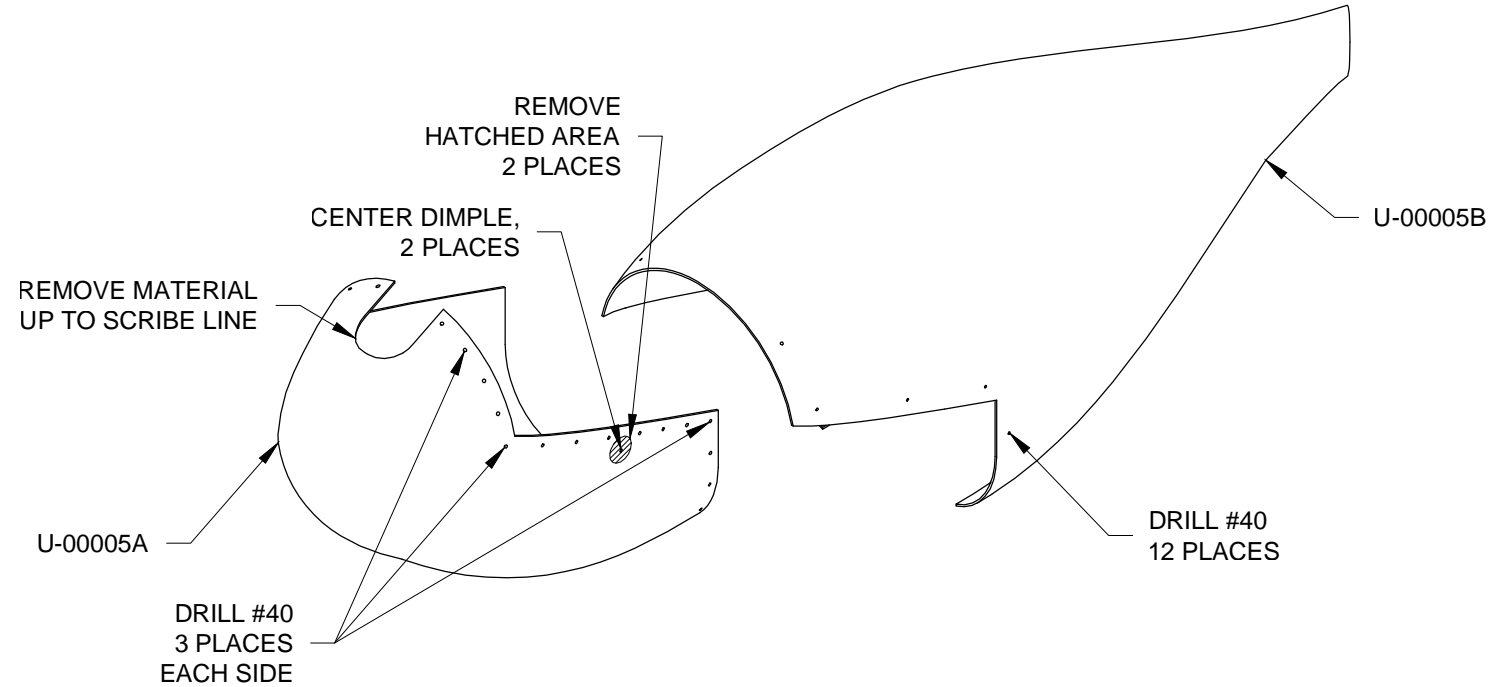

FIGURE 1: TRIMMING WHEEL FAIRING HALVES
Step 2: Drill #40 the dimples in the U-00005A Wheel Fairing Front in six places as shown in Figure 1. Take care that the drill is held perpendicular to the surface.
Step 3: Holding the drill perpendicular to the surface, drill #40 the dimples in the U-00005B Wheel Fairing Aft as shown in Figure 1.